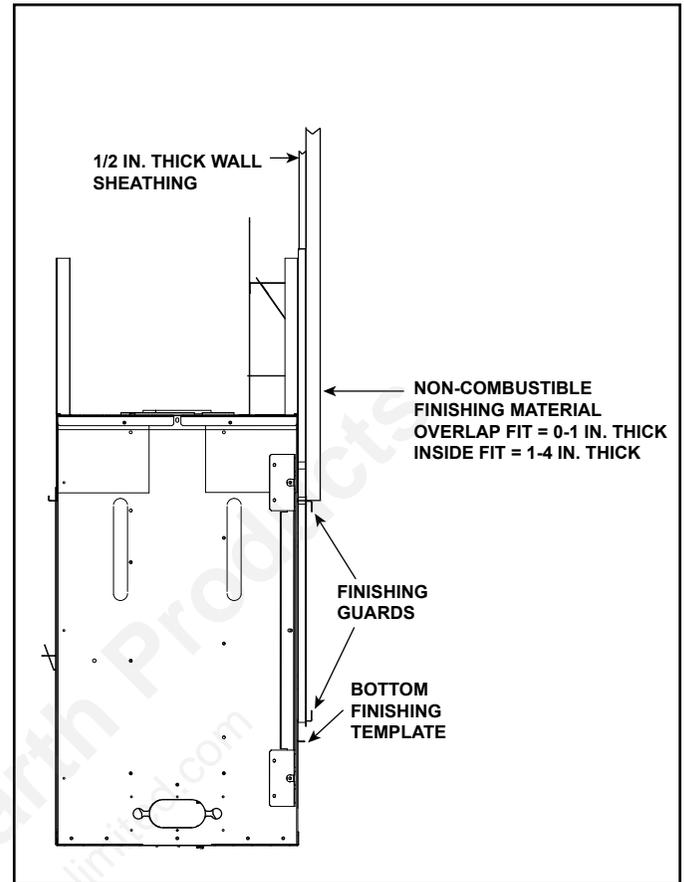
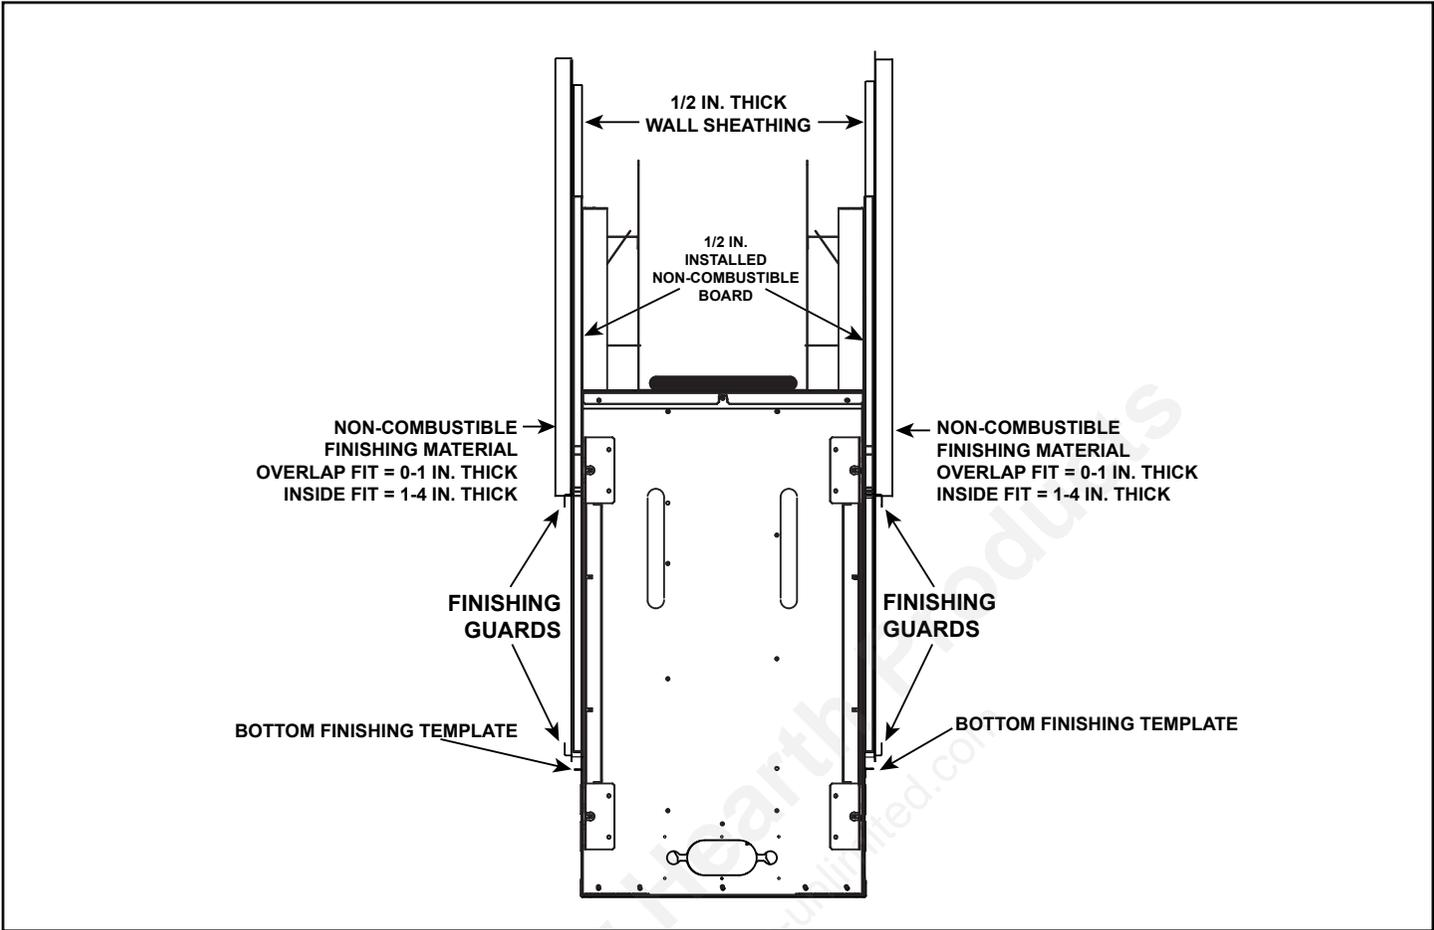

Figure 10.2 Finishing and Facing Materials - Single-Sided Models
Figure 10.3 Finishing Materials - See-Through Models
Decorative facing material thickness is measured from the face of the installed non-combustible board. See Figure 10.2 and Figure 10.3.
The fronts for this appliance are compatible with non-combustible materials. See Figure 10.2 and Figure 10.3.
1. Remove bottom finishing template from bottom access panel. Verify that factory-installed finishing guards are installed to ensure finishing material does not extend into the fireplace opening. See Figure 10.2 and 10.3.
1. Remove bottom finishing template from bottom access panel. Verify that factory-installed finishing guards are installed to ensure finishing material does not extend into the fireplace opening. See Figure 10.3.